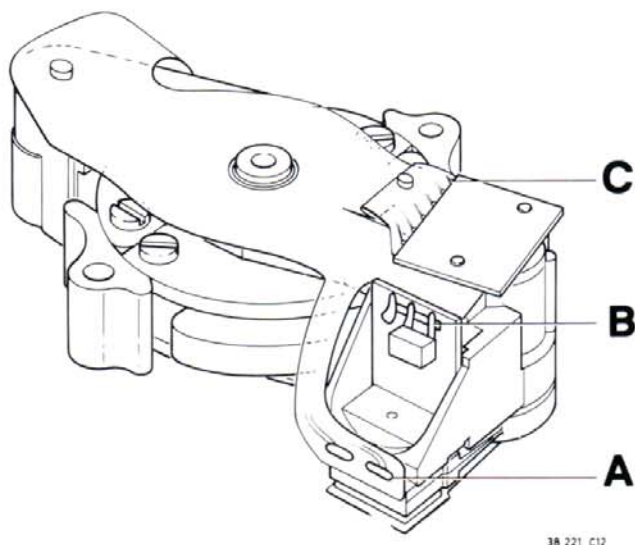

Fig. 3
- Desolder the connections A (see Fig. 3) of the flexible PCB.
- Apply the connections A and B (see Fig. 3).
6. With a disc on the turntable, put the set in service-loop 0. Switch S on and adjust the trimming potentiometer back in such a way that 3 complete pulses are visible during 0.1 sec. (fig. 3). The polarity of the oscilloscope must be chosen so that the tops of the pulses are in upward position. The rotor magnet of the motor has 3 polespairs. Therefore the behaviour of the motor during one revolution with a speed of 600 r.p.m. is visible.